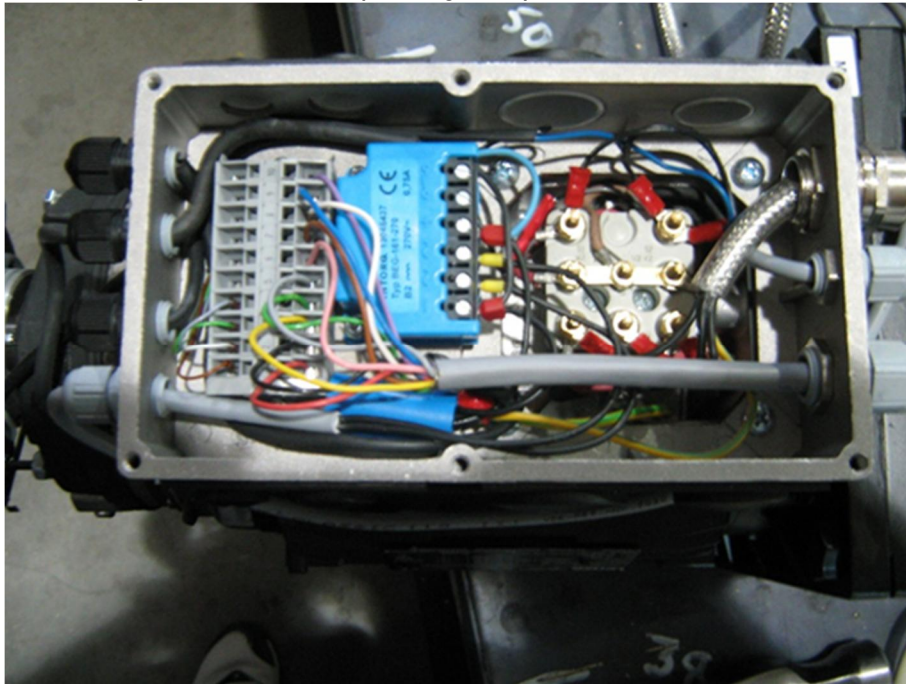

Figure 8
7. This is what the finished product is supposed to look like, you will have to slot the fan cover to accommodate for the motor/brake wires. When you try to put the fan cover back on you will realize what is being referenced to. (See Figure 8).